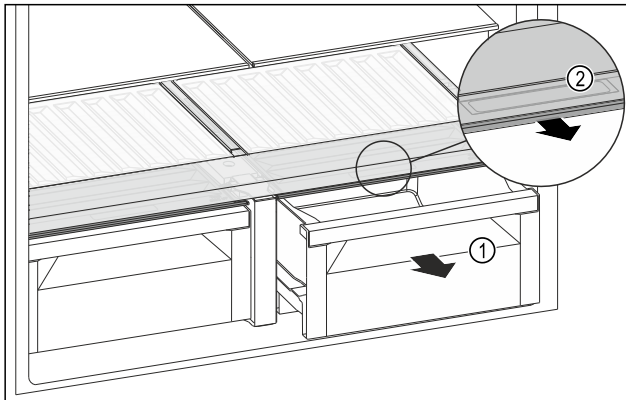

Fig. 141
- Pull out the drawer Fig. 141 (1).
- Grip the handle recess Fig. 141 (2) on the lid while pulling the lid forward at the same time.